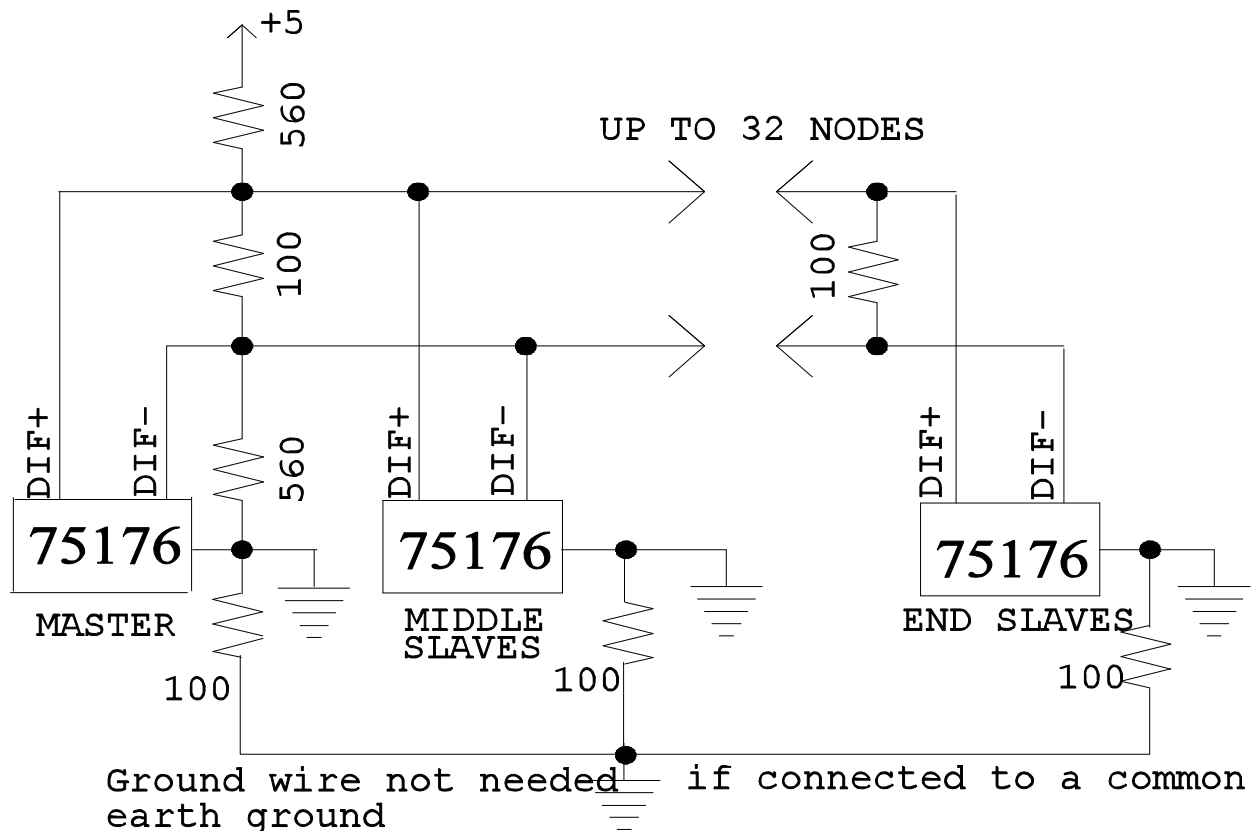

Figure 2-4.1: RS-485 Network Schematic
46. To use only one SBC interfaced to a PC, one needs to set up the SBC using the 75176 setup on the far left of Figure 2-4.1. In doing so, enable the 100 ohm and both the 560 (or 1K) ohm resistors. Next determine if both the PC and SBC are connected to a common earth ground. If this is not the case, enable the 100 ohm resistor and add a grounding wire to your twisted pair. The 100 ohm resistor insures that a damaging current build up between the two ports is prevented. Refer to tables 2-4.1 and 2-4.2 for the biasing and grounding jumper settings.
47. To interface two SBC's, refer to the two outer 75176 configurations on Figure 2-4.1. Configure the first (master) board as described in Part 1 of this page and configure the second (slave) board by enabling the 100 ohm biasing resistor. Refer to tables 2-4.1 and 2-4.2 for the biasing and grounding jumper settings. Again, if a common ground is not present, enable the grounding resistor on each board and add a grounding wire to the twisted pair.
48. When interfacing more than two SBC's, refer to the entire Figure 2-4.1. As shown, as many as 32 nodes can be added in line with the twisted pair. Note that any board that is added to the network should not have any of the biasing resistors enabled since the master board is performing the biasing for the entire network. The only boards that need the biasing resistors enabled is the master (first terminal node) and the last board (final terminal node). Refer to tables 2-4.1 and 2-4.2 for the biasing and grounding jumper settings. If one or two or any number of the boards do not share a common earth ground, one must enable the grounding resistor and add a grounding wire to the twisted pair.